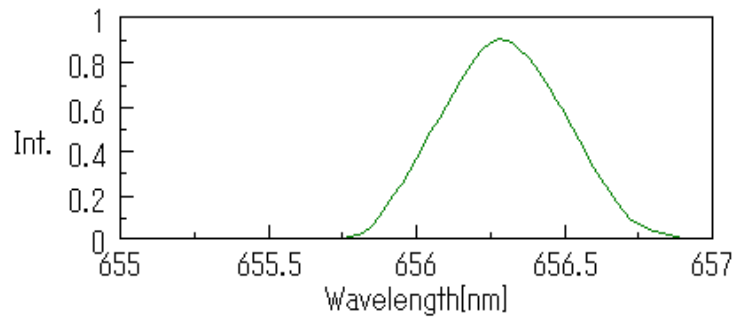
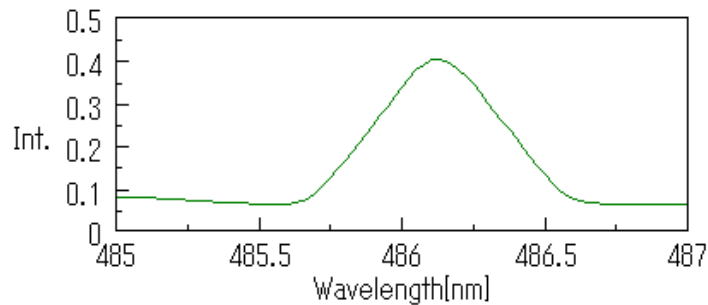

Figure 4.5 D₂ lamp spectrum with emission line at 656.1 nm
Figure 4.6 D₂ lamp spectrum with emission line at 486.0 nm
- (3) Measure the spectrum of the D₂ lamp with an emission line at 656.1 nm and at 486.0 nm with the sample chamber empty. Measurement examples are shown in Fig. 4.5 and Fig. 4.6.
- (4) Measure the single beam spectrum with the sample chamber empty to obtain the emission line spectra of the D₂ lamp. Measurement examples are shown in Fig 4.5 and Fig. 4.6.
- (5) Wavelength accuracy is normal if the measurement results are within the following criteria.